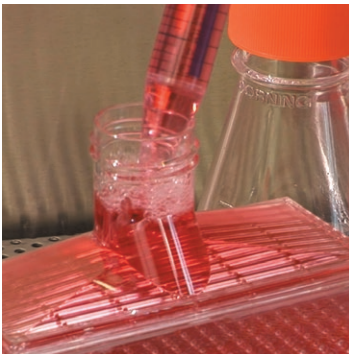

Figure 3. Add medium to the first cap thread before replacing cap.
5. Add medium (~60 mL) to bring the fluid level in the flask equal to the lowest thread on the neck (Figure 3). If excessive bubble formation occurs it may be necessary to aspirate or pipet out some of the bubbles and add medium to the lowest cap thread.